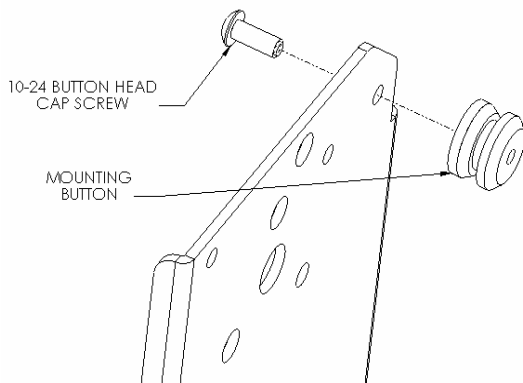
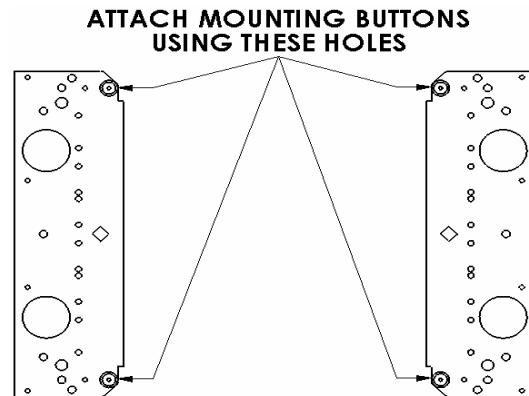

Figure 2
Figure 3
1. Using a 10-24 button head cap screw inserted from back side of bracket through holes, secure mounting button, with chamfered hole of mounting button (larger surface) facing bracket, to bracket (four places) (see Figure 2 & Figure 3).